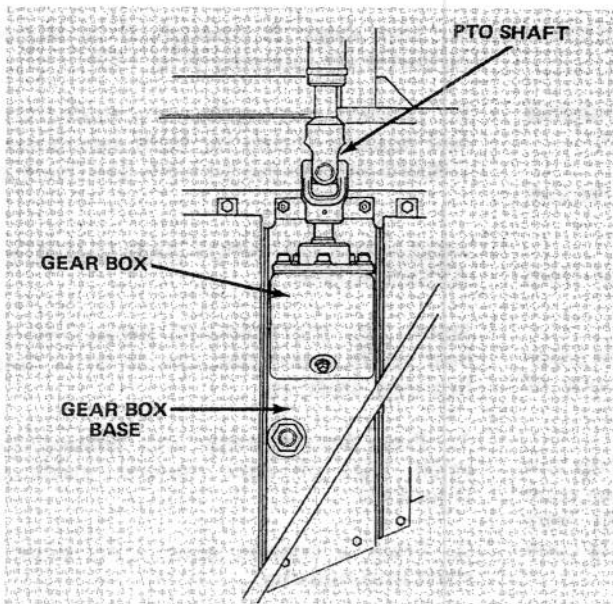

Figure 111
4. Remove four carriage bolts, lockwashers and nuts securing gear box base to top of cutting unit (Fig. 111). Slide gear box and base forward until PTO shaft separates. Place gear box base assembly on workbench.
7. Slide PTO shaft into PTO tube. Loop belt around gear box pulley and mount gear box base on top of cutting unit with four carriage bolts, lockwashers and nuts (Fig. 111).